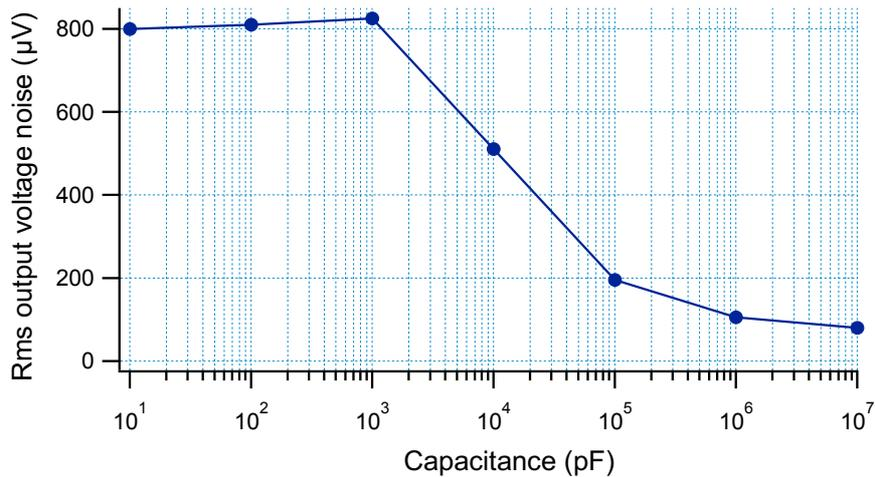

Figure 16. Rms output noise voltage versus capacitive load with offset control switched 'Off'
The output noise will be lower when the bandwidth of the amplifier is reduced, which happens when a significant capacitive load is connected to the output (see Fig. 16 on page 12 for a detailed measured curve).
- Rms output noise voltage versus capacitive load (Fig. 16)